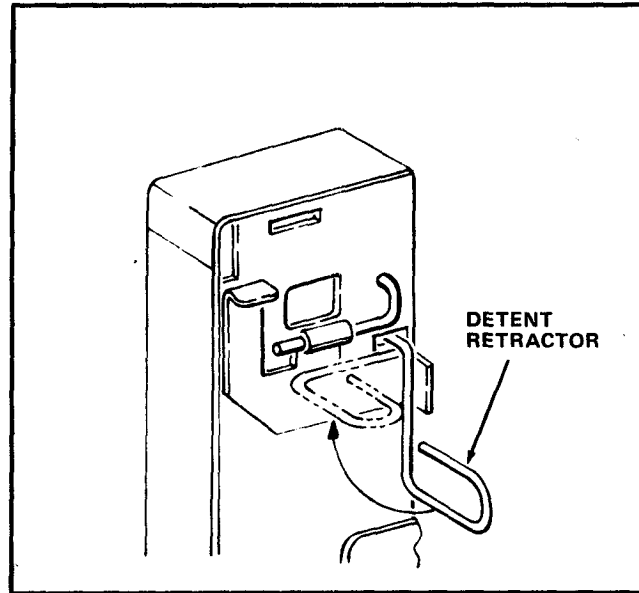

FIGURE I-1
- E. Rotate the Detent Retractor clockwise 90°, until it locks in the horizontal position. See Figure I-1.